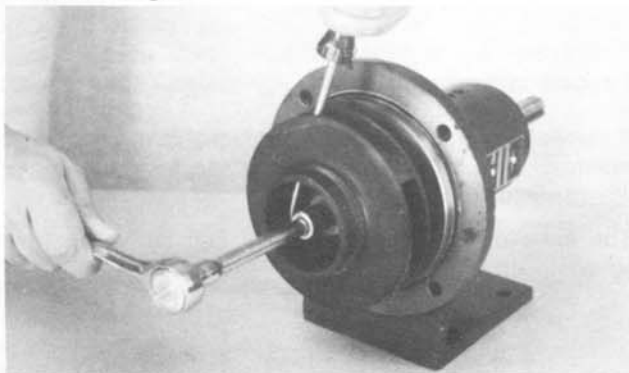

Figure 1
1. Remove (4) 3/8" cap screws holding case. Remove case from backplate.
2. Insert a screwdriver in one of the impeller waterway passages and back off the impeller retaining assembly with a 9/16" socket wrench as shown in Fig. 1.